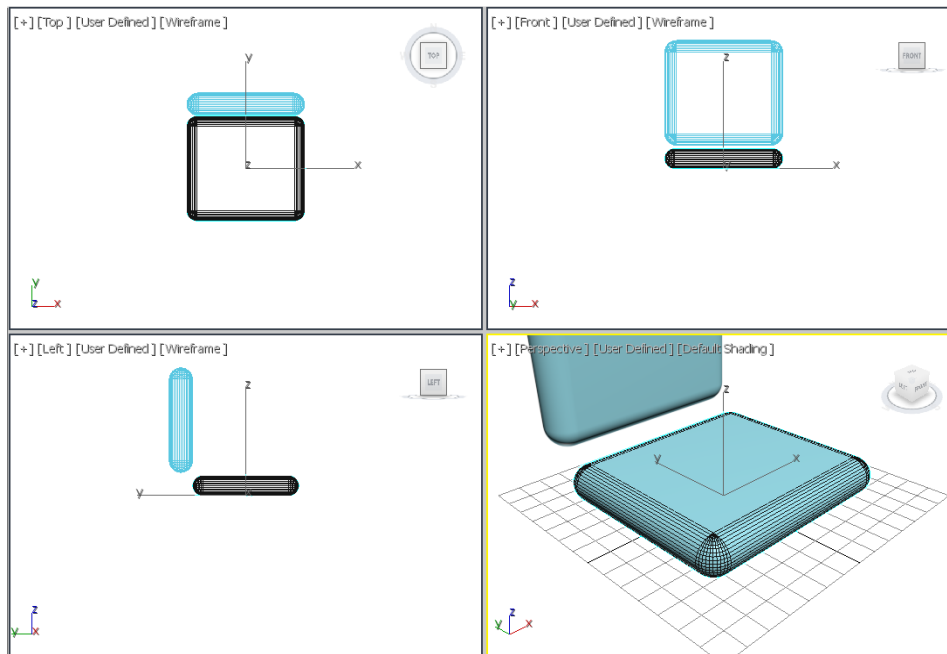

Figure 3-30 The back support geometry in viewports
- Choose the **Create** button; a chamfer box is created. In the **Parameters** rollout, make sure the value in the **Fillet Segs** spinner is **10** and enter **back support** as the name of the chamfer box in the **Name and Color** rollout, refer to Figure 3-30.